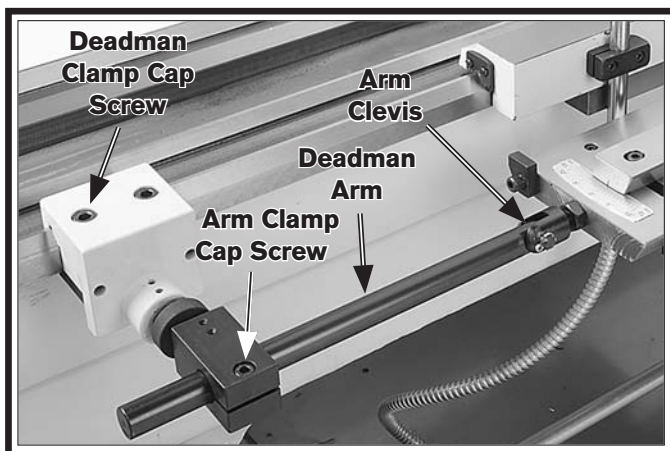

Figure 16. Deadman and arm installation.
23. Slide the deadman clamp onto the lathe way, thread the arm clevis into the taper attachment, and then slide the arm clamp onto the deadman arm, as shown in **Figure 16**. Do not tighten the mounting cap screws or arm clevis at this time.
30. Using a 3mm hex wrench, tighten the cam set screws and the clevis jam nut (see **Figure 16**) when finished.